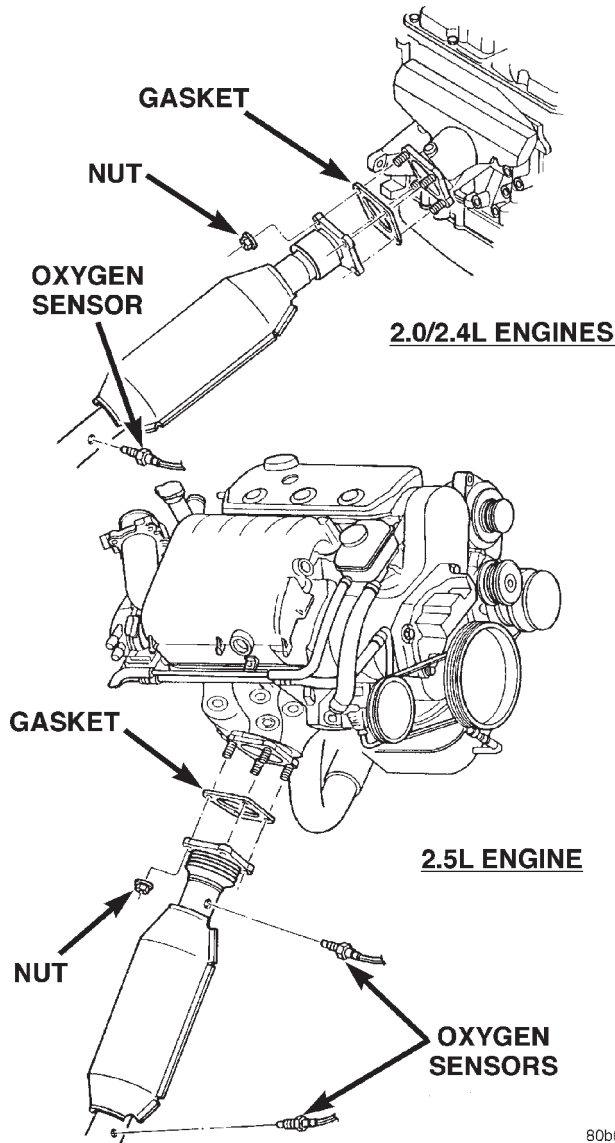

Fig. 6 Flex-Joint Connections
(8) Vehicle equipped with 2.5L engine disconnect upstream heated oxygen sensor.
(9) Remove catalytic converter to exhaust manifold attaching fasteners (Fig. 6). Remove catalytic converter from vehicle.
(10) Clean ends of pipes and/or muffler to assure mating of all parts. Discard broken or worn insulators, rusted clamps, supports and attaching parts.
(1) Assemble catalytic convertor to exhaust manifold connection (Fig. 6).
(4) Align and tighten the catalytic convertor to exhaust manifold fasteners (Fig. 6). Tighten fasteners to 28 N·m (250 in. lbs.).